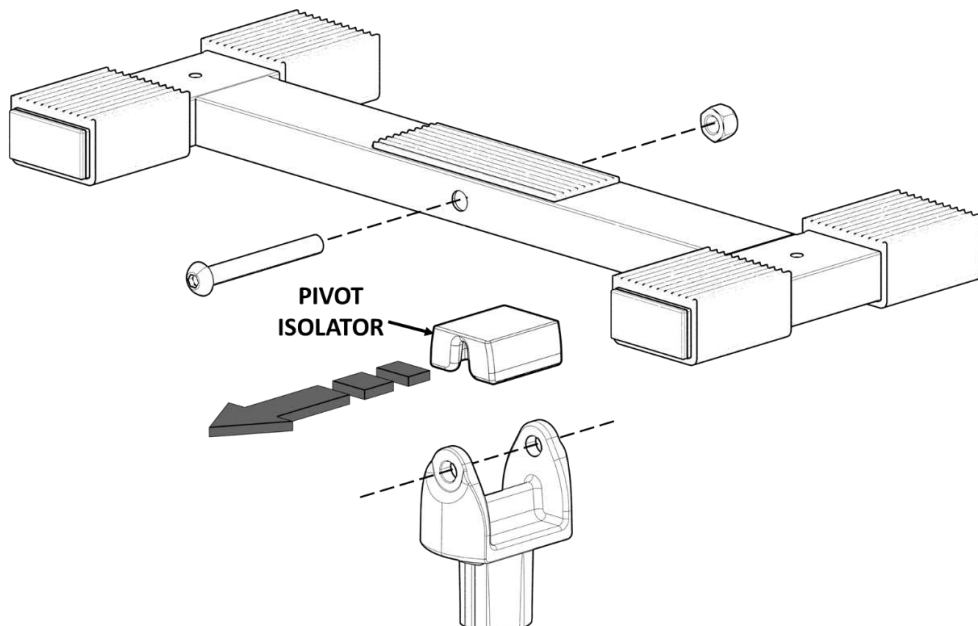

FIGURE 9
9. **IMPORTANT:** For angled ceilings remove **PIVOT ISOLATOR** and reassemble as shown in *FIGURE 9*. Go to **Step 8** to finish assembly. (Tools not provided)